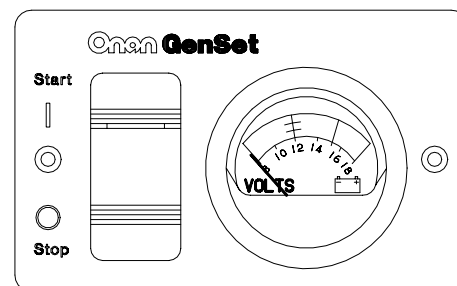

FIGURE 6. REMOTE START/STOP, DC VOLTMETER
- Remote switch with indicator lamp and DC voltmeter (Figure 6).